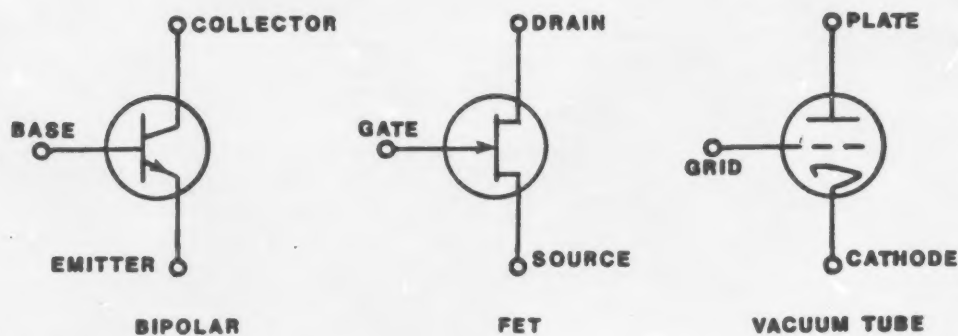

Figure 2
- ④ First you will learn about JFETs. The schematic symbol for a type of junction FET, or JFET, is compared to the symbols for a two-junction (bipolar) transistor and a vacuum tube in Figure 2.